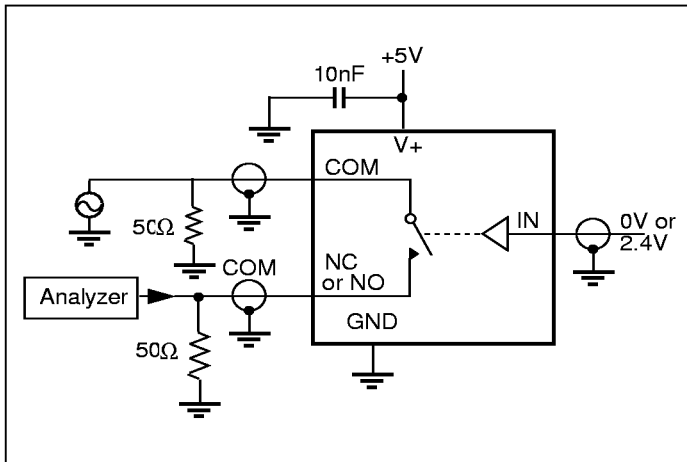

Figure 3. Off Isolation
7. Off Isolation = 20log10 [VCOM / (VNO or VNC)]. See figure 3.